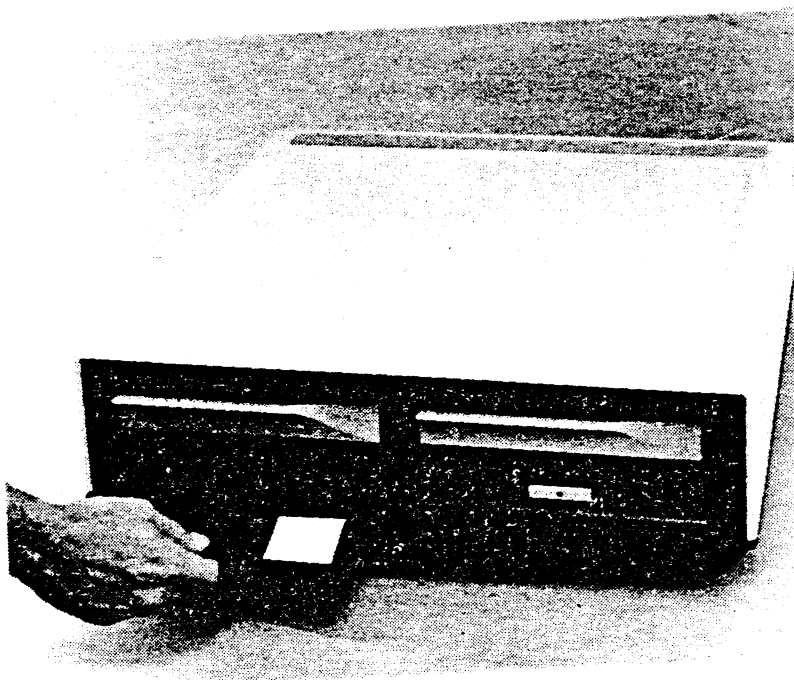

Figure 2-5. Diskette Orientation
- (1) Press the latch on the front of the drive unit.
- (2) Insert diskette with label toward the front and facing up (Figure 2-5).
- (3) Move door handle down to close door.